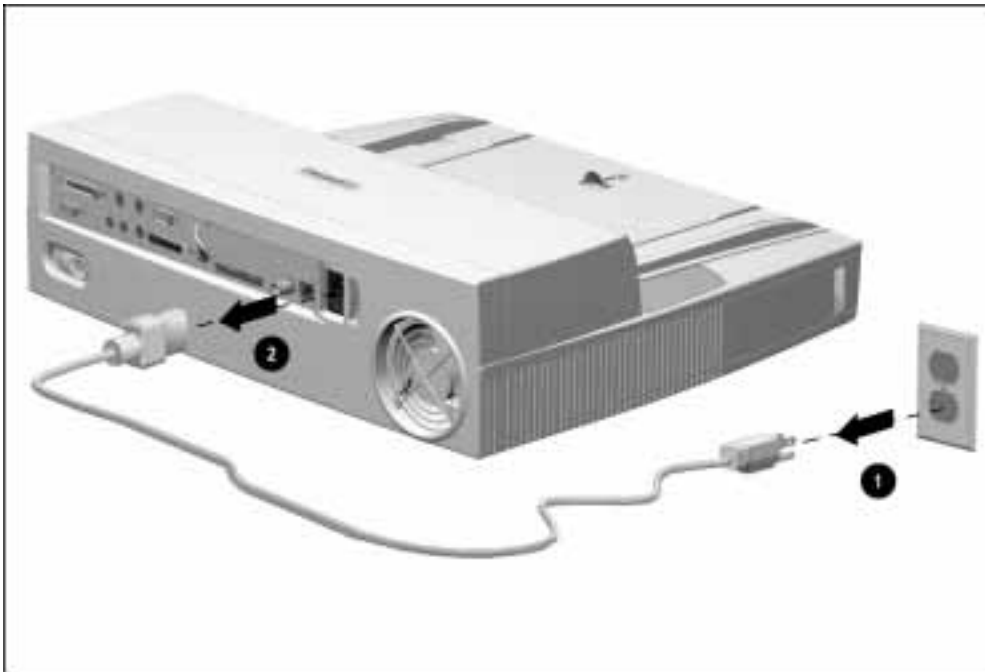

Figure 5-3. *Disconnecting the ArmadaStation*
4. Disconnect the power cord from the wall outlet ❶ (Figure 5-3).
5. Disconnect the power cord from the ArmadaStation ❷.